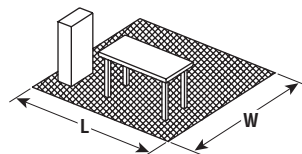

Figure 1 — Design Area
- Determine** the area to be heated in ft2. This is termed the "design or work area" ( $A_D$ ) (Fig. 1).